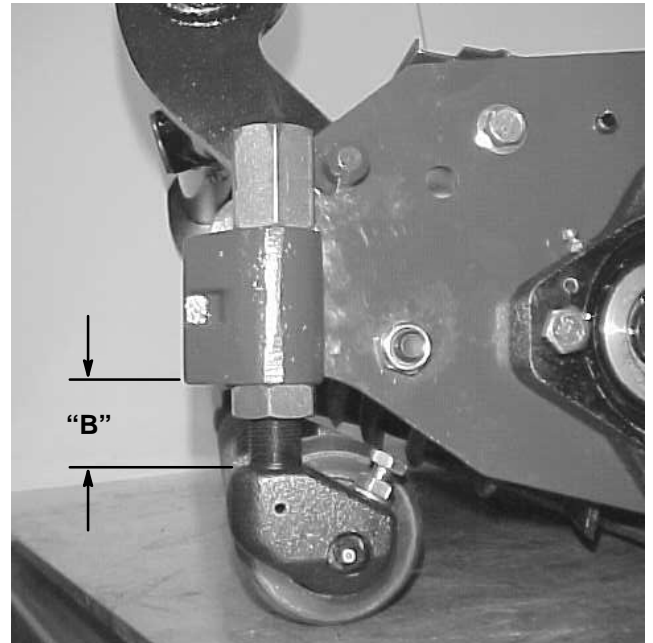

Figure 14
2. Set the Front Bracket Height “B” using the approximate dimension given by **Table 1**. This measurement is between bottom surface of middle casting and top surface of rod casting (Fig. 14).
NOTE: For front roller distances ("B") greater than 1.5" (38 mm) switch long and short adjusting nut locations for better support (Fig. 14).